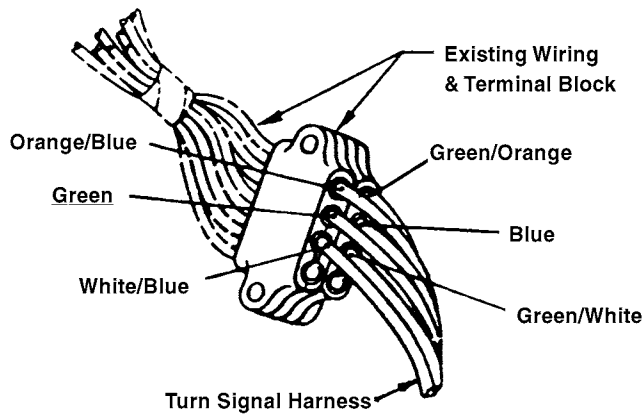
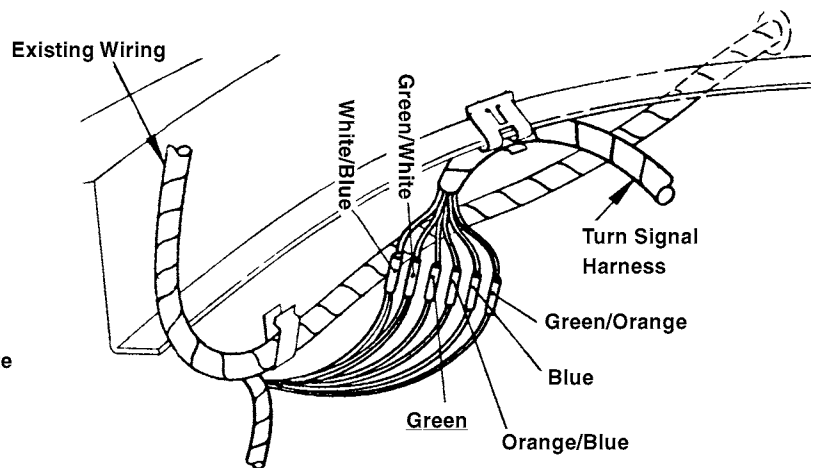

Fig. 3 Electrical Connections 55-56 T-Birds
Fig. 4 Electrical Connections 57 T-Birds
10. Find the green wire in the turn signal harness (see figures 3 & 4). For 1955 and 1956 T-Birds this green wire will be plugged into a junction block as shown in figure 3. For 1957 T-Birds the green wire will be plugged into an in-line connector as shown in figure 4.
12. Plug male terminal of the new switch wire into the junction block (55/56) or in-line connector (57) where original green wire was attached.